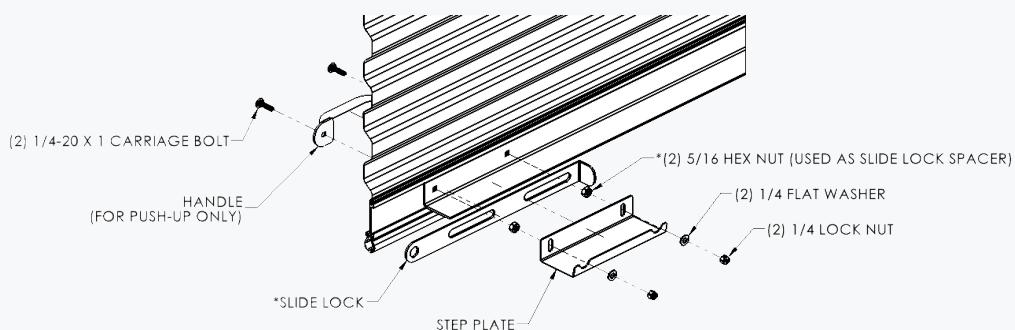

figure 18: Slidelock & Step Plate (Manual Operation)
- ♦ For chain hoist operated doors, lower the bottom bar and install the slide lock and step plate using (2) 1/4-20 x 1" carriage bolts, (2) 5/16-18 hex nuts, (2) 1/4 flat washers and (2) 1/4-20 nylon lock nuts. Do this at both ends of bottom bar. **See Figure 18.**
- ♦ \*For electrically operated doors, lower bottom bar and install step plate using (2) 1/4-20 x 5/8 carriage bolts and (2) 1/4-20 Keps nuts. **See Figure 18 (OMIT SLIDE LOCK)**